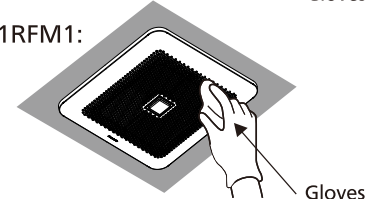

Fig.16
1. Clean grille. (Don't put into water. Use non-abrasive kitchen detergent, wipe dry with clean cloth.) (Fig.16)